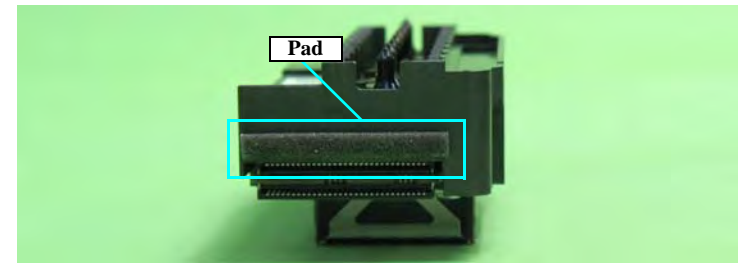

Figure 4-59. Attaching the Pad
- Confirm that the pad is attached at the position in Figure 4-59.